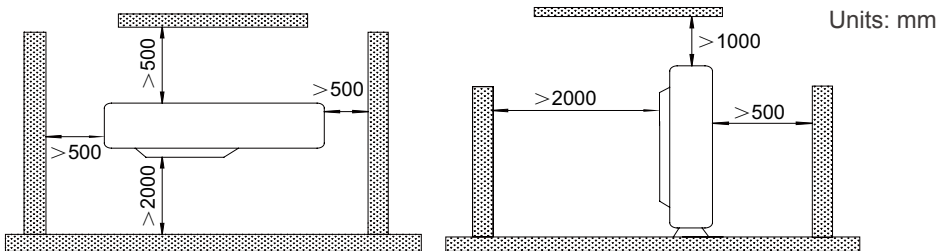

Fig.4
5. The installation space of the unit should be as required in Fig.4.